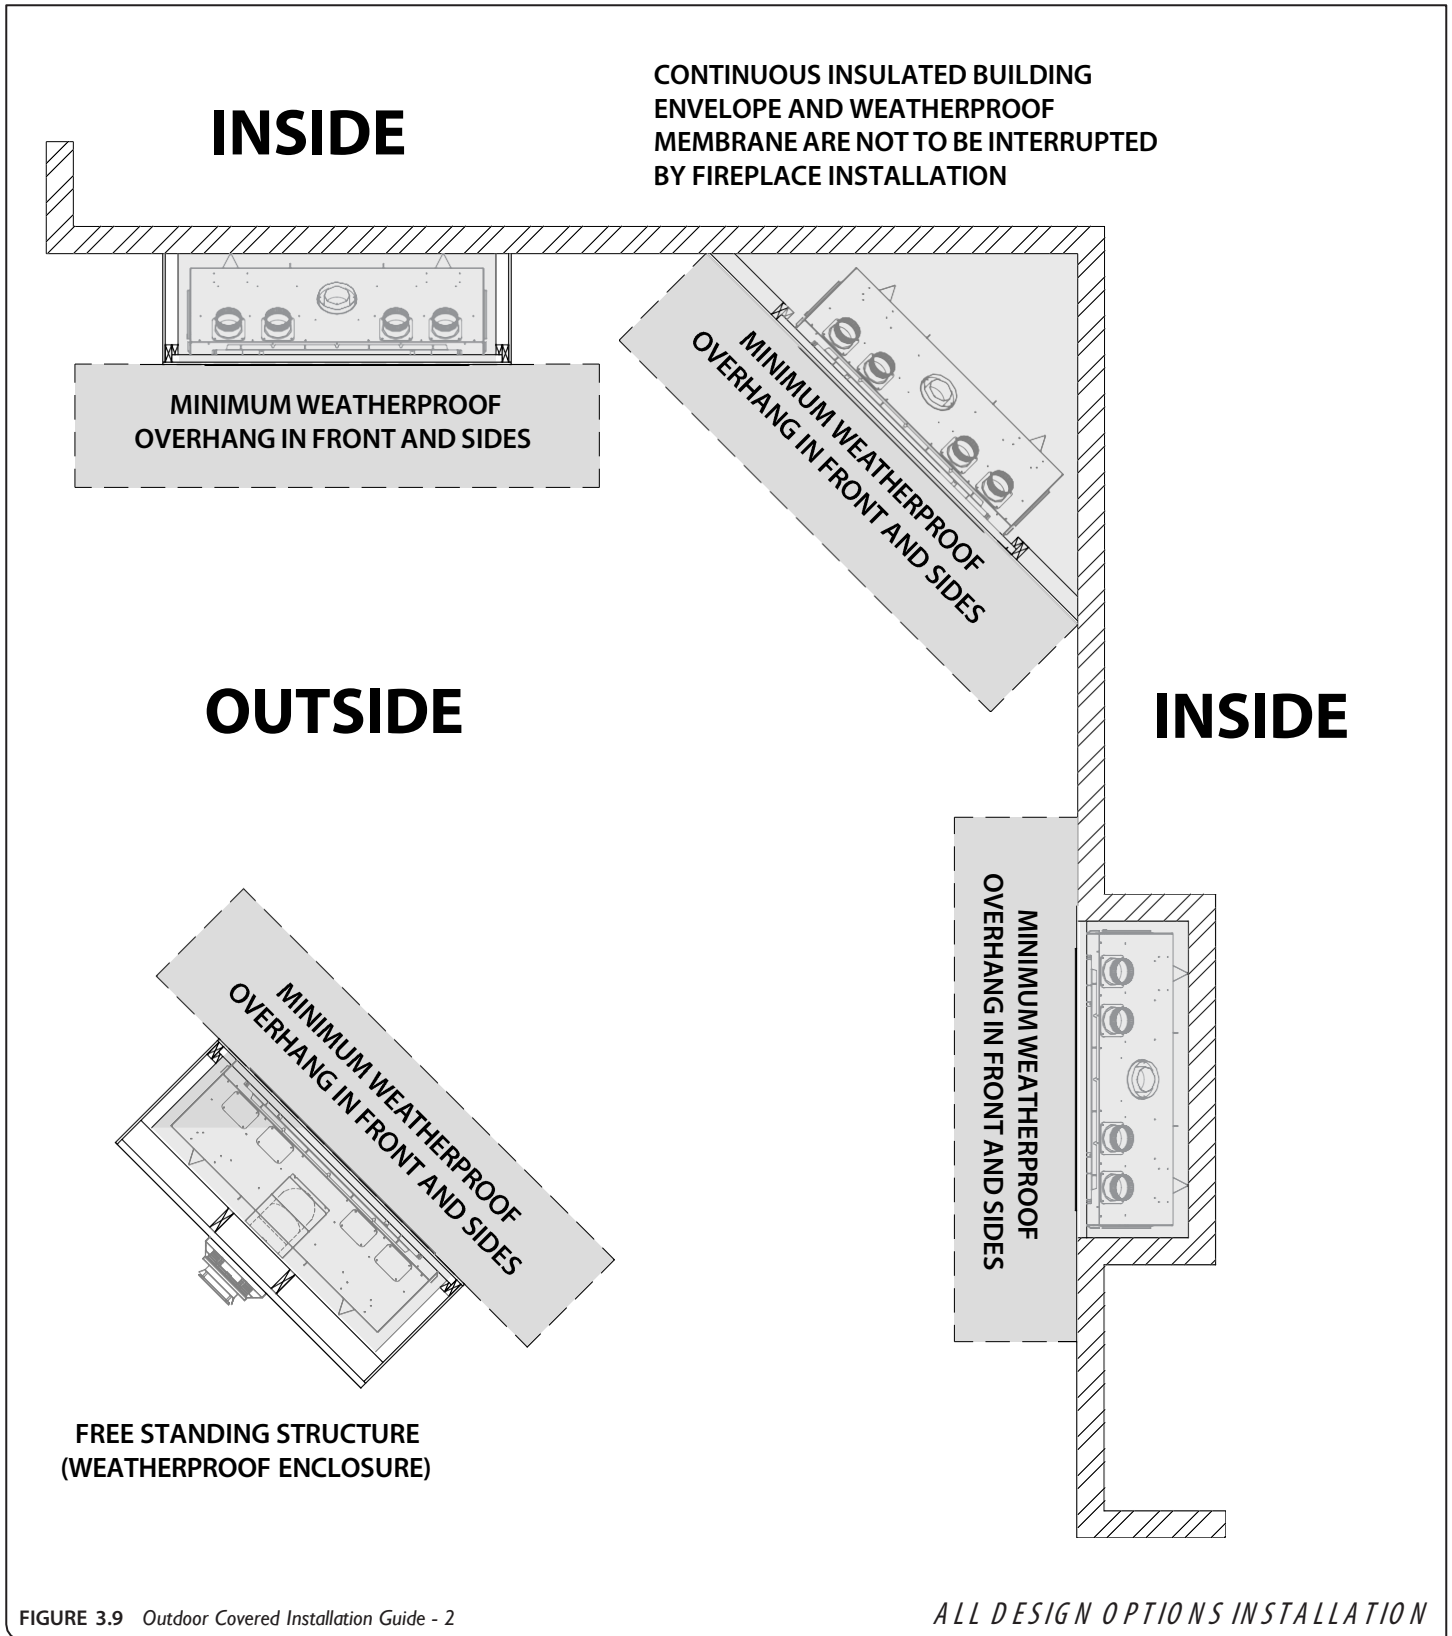

FIGURE 3.9 Outdoor Covered Installation Guide - 2
- The continuous insulated building envelope and weatherproof membrane are not to be interrupted by fireplace installation. See **FIGURE 3.9** on the following page.